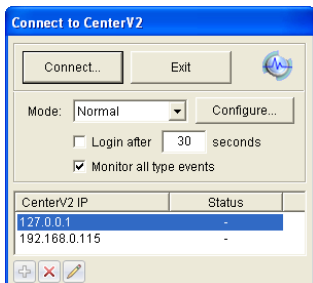

Figure 1-8
To further define the communication conditions between the subscriber and Center V2, select **Normal Mode** in the Connect to Center V2 dialog box (Figure 1-8), and then click the **Configure** button for setup. A drop-down menu includes two options, **General Settings** and **Advance Settings**. The Advance Settings dialog box includes these tabs: (1) Camera, (2) Other and (3) I/O Device.
The settings define which camera condition to notify Center V2. To configure the event type, first disable the **Monitoring all type events** option in Figure 1-8.
The settings define which I/O condition to notify Center V2. To configure these settings, first disable the **Monitoring all type events** option in Figure 1-8.
To set up a panic alarm, select **Panic Button** from the Mode drop-down list in the Connect to Center V2 dialog box (Figure 1-8), click the **Configure** button and select **Advanced Settings**. This dialog box appears.
Click  in the Connect to Center V2 dialog box (Figure 1-8). For details, see *Input State Detection*, Chapter 6, *DVR User's Manual* on the Surveillance System Software DVD.